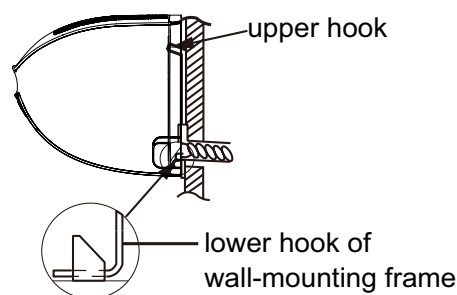

Fig.15
- (5) Check if the indoor unit is installed firmly and closed to the wall.(As show in Fig.15)